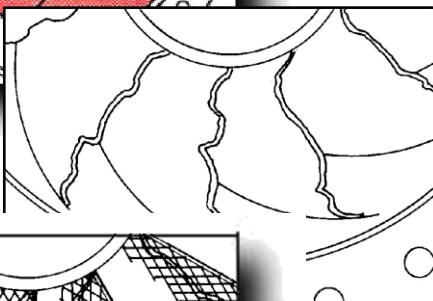

Figure 5
5. For worn impeller blades, follow the same surface preparation as for pump casing. Check for and clean off any chloride contamination, as salts react as a release agent and can prevent epoxy from bonding to surface (Figure 5).